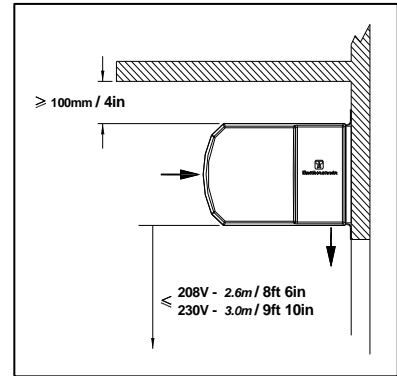

Fig 1
- the height of the discharge grille above floor level to be no more than as indicated in Fig 1
- at least 100mm / 4in clearance (air gap) above electric/water heated air curtains, see Fig 1